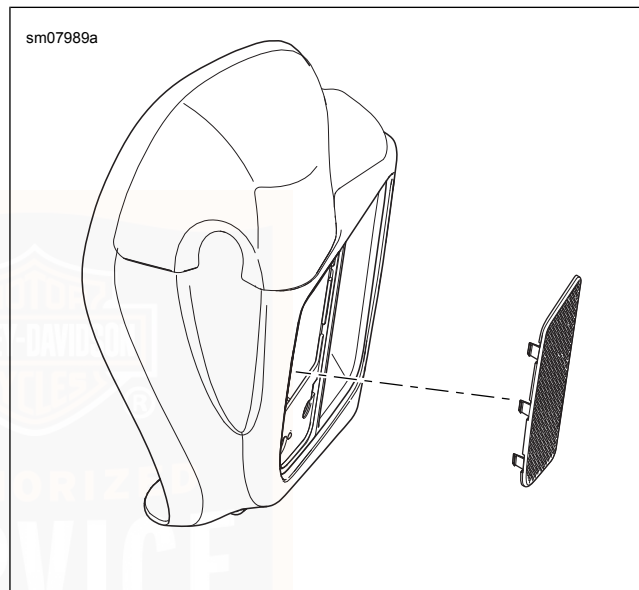

Figure 62. Lower Fairing Grille Panel
1. See Figure 62. Remove outer grille from lower fairing.